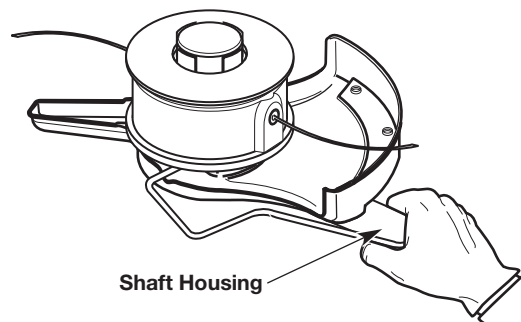

Fig. 13
4. Hold the locking rod in place by grasping the other end against the shaft housing (Fig. 13).
3. Hold the locking rod in place by grasping the other end against the shaft housing (Fig. 13).